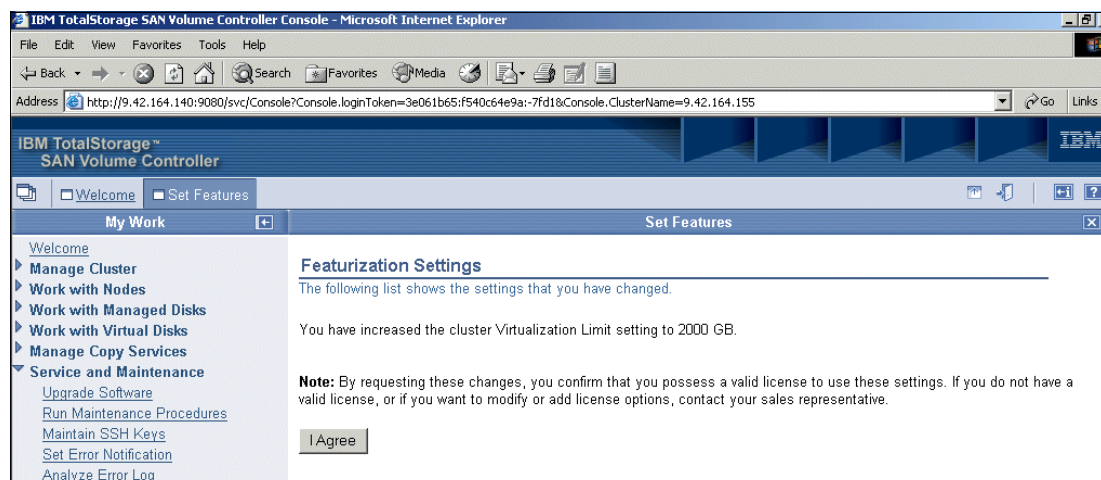

Figure 9-93 License agreement
3. You now see a license confirmation panel as shown in Figure 9-93. Review this panel and ensure that you are in compliance. If you are in compliance, click **I Agree** to make the requested changes take effect.